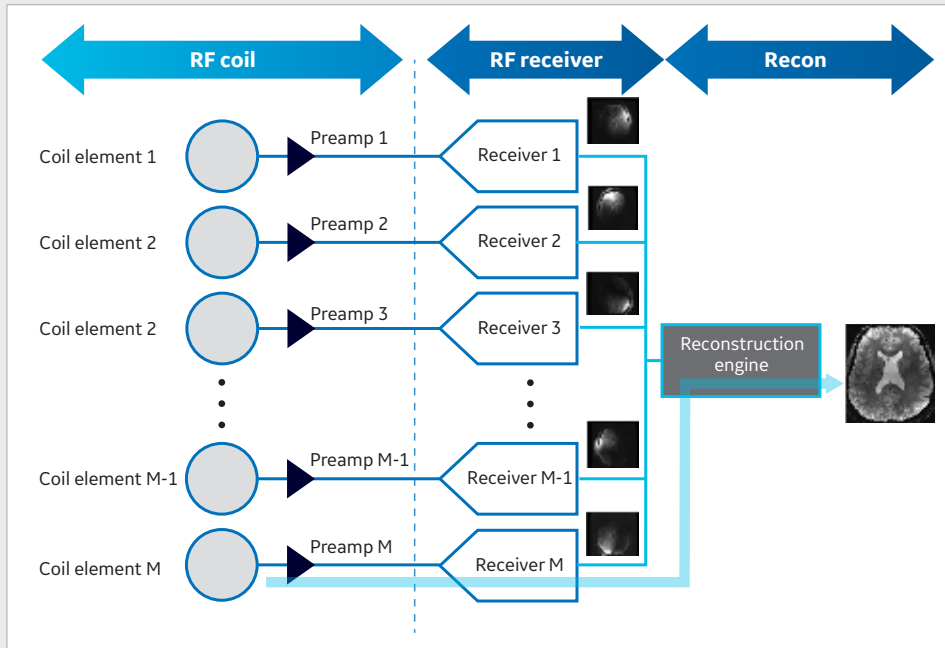

Figure 3. M x M receive chain architecture.
In modern MR receive chain design, the shortcomings of a conventional design are avoided by significantly increasing the number of receivers/ADCs. In this system design, each independent coil element connected to the system is furnished with its own receiver/ADC (Figure 3). The number of simultaneously digitized elements is not limited and, therefore, can be equal to the number of connected coil elements (M). Any and all connected elements can be digitized simultaneously to form a full MR imaging channel. GE has pioneered this type of receive chain design with the introduction of Total Digital Imaging (TDI) on all newer generation MR systems.